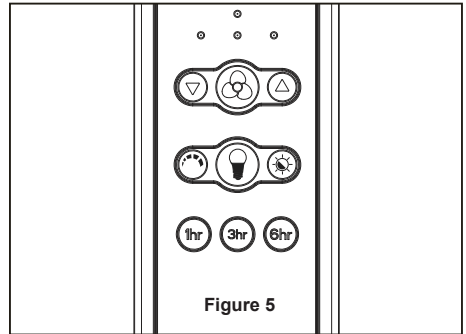

Figure 5
4. After connections have been made, the wires should be spread apart with the grounded conductor and the equipment-grounding conductor on one side of the outlet box and the ungrounded conductor on the other side of the outlet box, then turn leads upward and carefully push leads into the outlet box, with the white and green leads to one side of the box and the black leads to the other side. (Figure 5)
5. Assemble the LED assembly to the light kit using the removed screws from Step 3 and secure all three screws. (Figure 5)
5. Remote functions: (Figure 5)